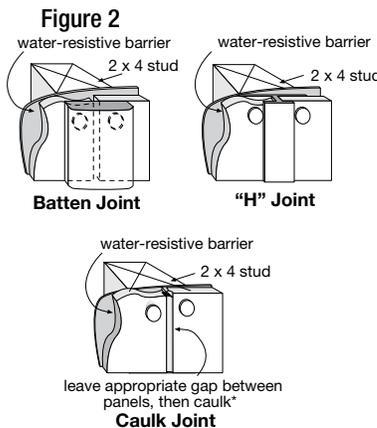

Figure 3
- When installing James Hardie products all clearance details in figs. 3,5,6,7,8,9,10 & 11 must be followed.
- Horizontal Joints - Provide Z-flashing at all horizontal joints (fig. 3).